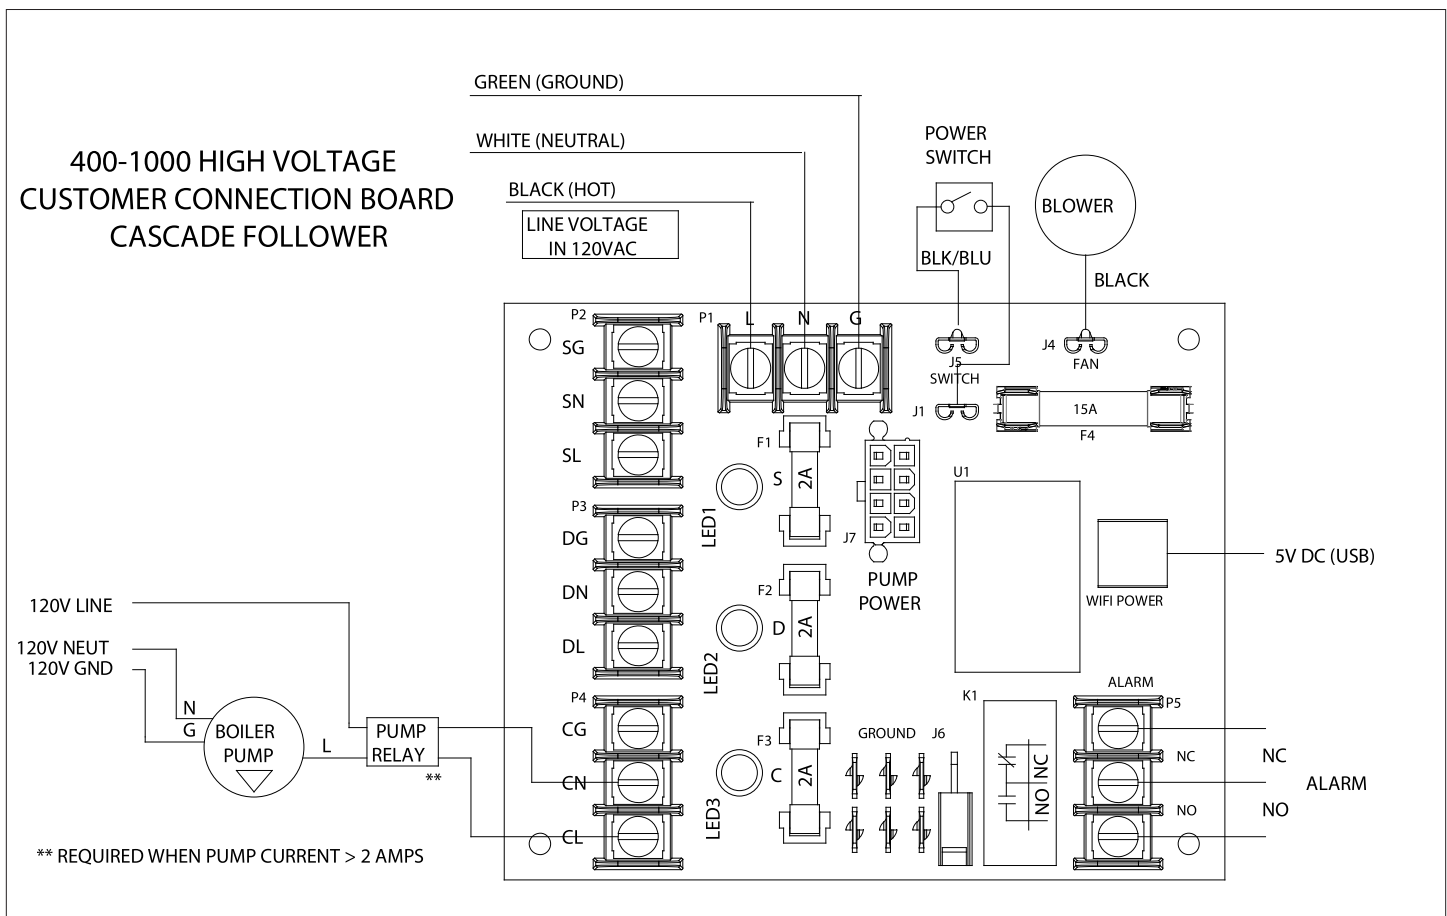

Figure 31 - Cascade Follower High Voltage Wiring - 400 - 1500 Models - F1 - F3 Fuse p/n 6300P-037; F4 Fuse p/n 7550P-285
1. Connect the boiler pump relay COIL contacts as shown in Figure 31 to the terminals marked CL (BOILER HOT) and CN (BOILER NEUT).
6. If using DHW, connect the DHW pump relay COIL contacts as shown in Figure 31 to the terminals marked DL (DHW HOT) and DN (DHW NEUT).
1. To connect an alarm device, connect the power for the device to the common (ALARM Center) terminal. Connect the alarm device hot wire to the NO (ALARM NO) terminal. Connect the neutral or return of the alarm device to the neutral or return of the power for the alarm device. See Figure 31.